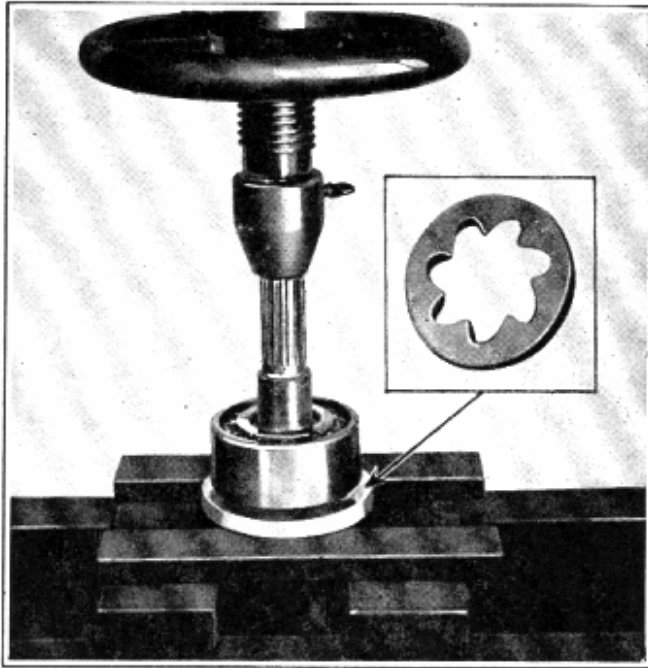

Fig. 9—Removing Double Row Pinion Bearing
3. Install the double row pinion bearing remover J-1439 over the pinion teeth and against the double row bearing. Then press the bearing off the pinion shaft, Fig. 9.